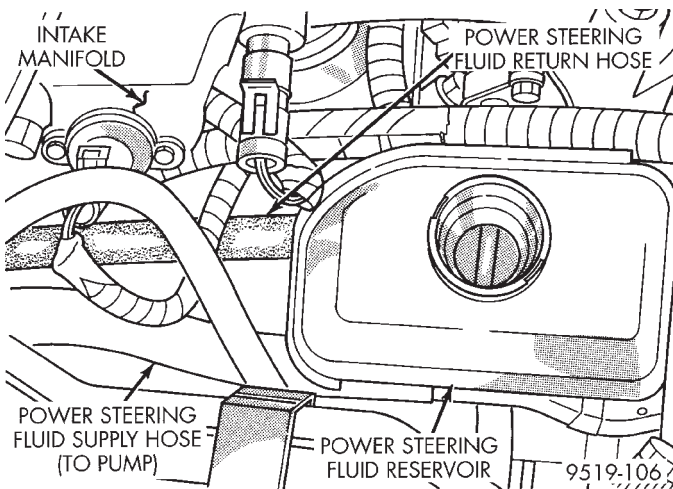

Fig. 21 Power Steering Fluid Supply Hose At Reservoir
(2) Remove hose clamp, attaching power steering fluid supply hose to the power steering fluid reservoir. Then remove power steering fluid supply hose from power steering fluid reservoir (Fig. 21).
(3) Install power steering fluid supply hose on power steering fluid reservoir fitting (Fig. 21). Install hose clamp on power steering fluid supply hose at power steering fluid reservoir. **Be sure hose clamp is installed on return hose past upset bead on power steering fluid reservoir.**